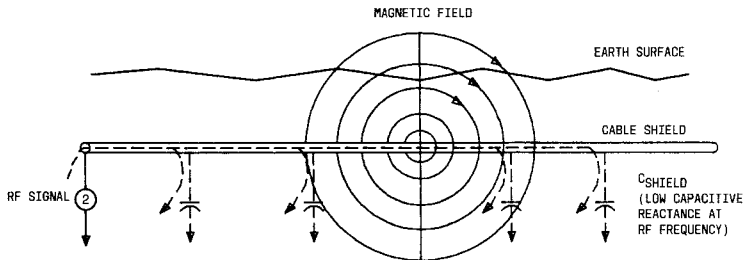

Fig. 7—Buried Cable Magnetic Field With High Frequency Source and Far End Open
4.01 In operation, the transmitter imposes a combined pulsed dc and RF signal on the buried cable shield from which the normal ground connections have been removed. The RF signal creates a magnetic field (Fig. 7) which is used to identify, trace, and determine the depth of the cable while the pulsed dc signal generates earth currents (Fig. 8) between the shield-earth contact